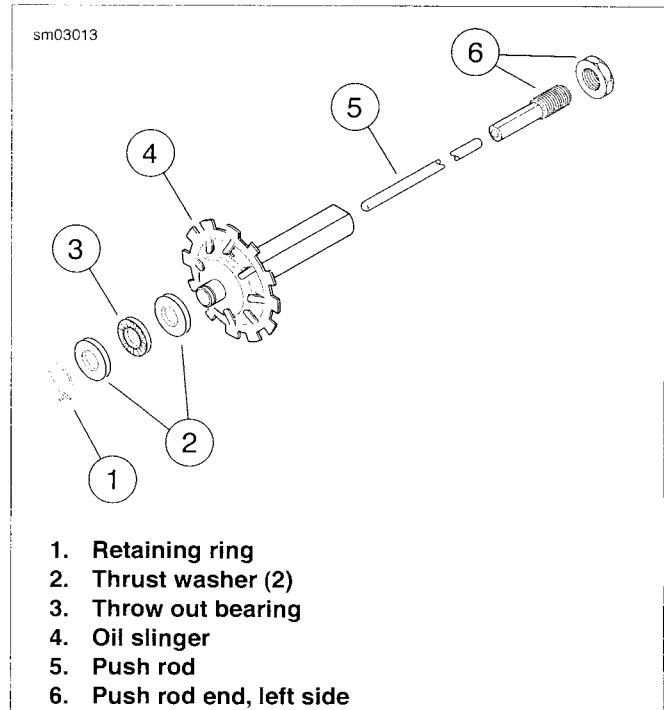

Figure 6-7. Push Rod Assembly
7. See Figure 6-7. Remove oil slinger assembly from mainshaft. Remove push rod.